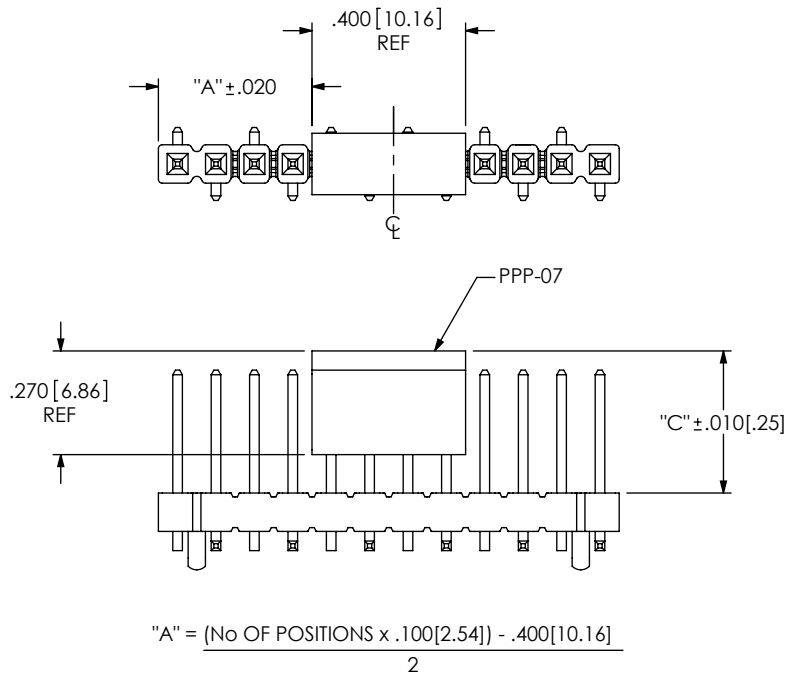

FIG 2
-A: ALIGNMENT PIN (SEE FIG. 2)